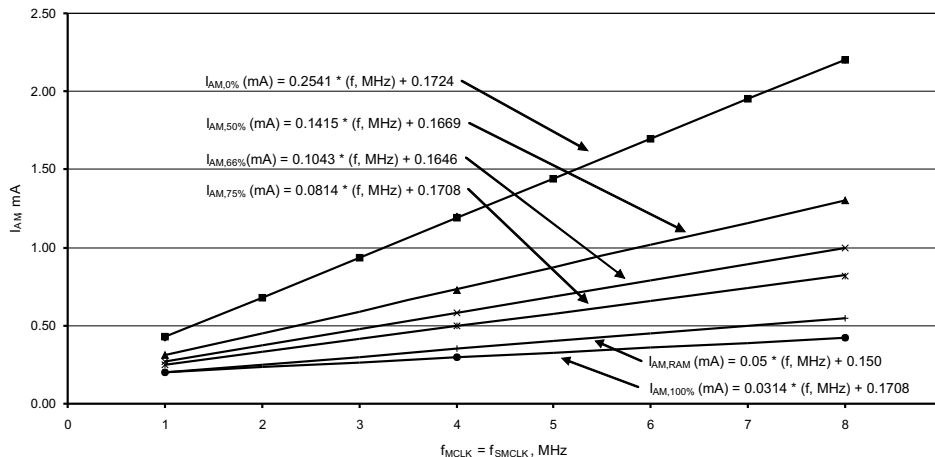

Figure 5-1. Typical Active Mode Supply Currents, No Wait States
- See Figure 5-1 for typical curves. Each characteristic equation shown in the graph is computed using the least squares method for best linear fit using the typical data shown in Section 5.4.